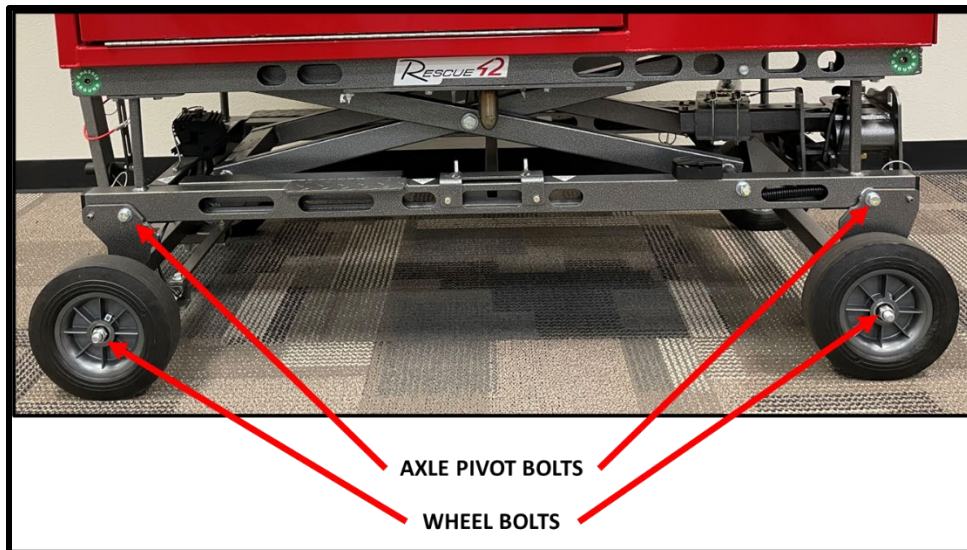
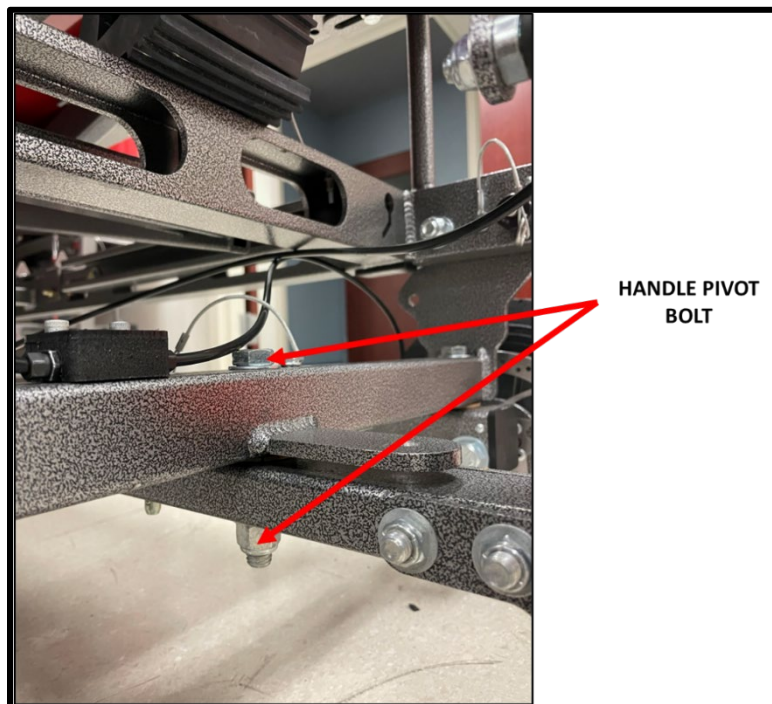

Figure 6. Wheel and Axle Pivot Bolts
Figure 7. Handle Pivot Bolt
1. Inspect and tighten each of the pivot bolts listed below. Each bolt should be tightened enough to provide light friction but an easy range of motion. Refer to Figure 6 and Figure 7 for pivot bolt locations.